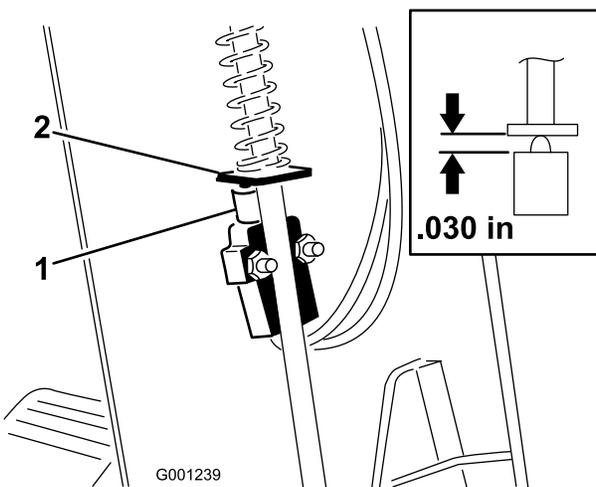

Figure 61
3. Slide the cover up the steering shaft to expose the parking brake switch (Figure 61).
5. Align the parking brake rod paddle with the switch plunger (Figure 61)
6. Press down on the parking brake rod and push up on the switch until the compressed length of the switch plunger is 0.030 inches (Figure 61, inset). This is the distance between the brake rod paddle and the switch plunger housing.